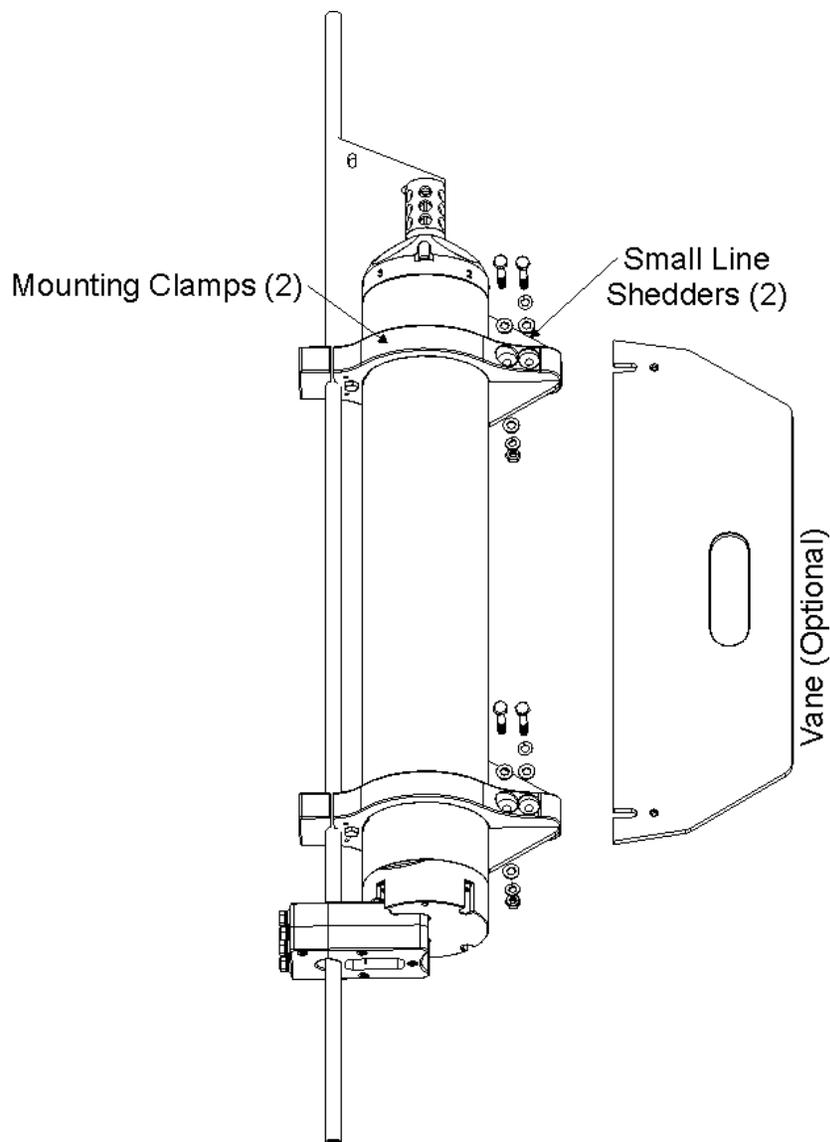

Figure 7. DVS Optional Vane Installation
- b. Install the vane using the hardware from the two small line shedders (see Figure 7).